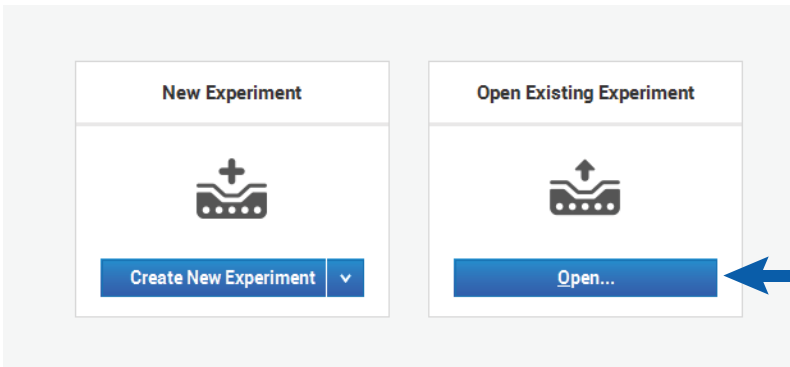

Figure 48. The QuantStudio™ Design and Analysis Software, Open Existing Experiment icon.
1. Open the QuantStudio™ Design and Analysis Software and select the **Open Existing Experiment** icon from the home screen (Figure 48).